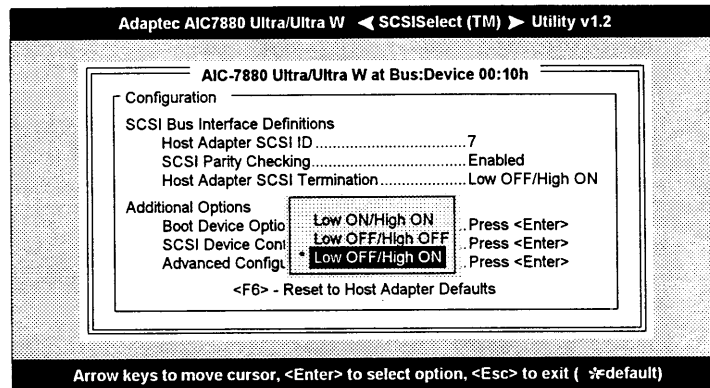

Figure 3-5 Host Adapter SCSI Termination
This parameter allows you to configure the host controller SCSI termination function. Figure 3-5 shows the possible settings. The default setting is Enabled.
*If the AIC-7880 is not at one end of the SCSI cable, the terminating resistors located on the system board must be disabled by setting the SCSI terminator to Low OFF/High OFF. See Figure 3-5. The three resistors are in the SIP packages installed in the sockets.*